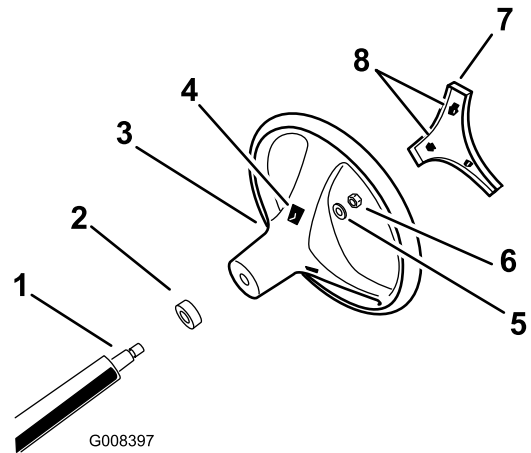

Figure 3
- Through the openings in the back of the steering wheel, release the lock tabs of the center cover and remove the cover from the wheel (Figure 3).
- Remove the locknut and washer from the steering shaft (Figure 3).
- Align the steering wheel onto the splines of the steering shaft (Figure 3).
- Assemble the washer and locknut threads of the steering shaft (Figure 3).
6. Align the lock tabs of the center cover to the openings in the steering wheel and press the cover into the wheel until the locks tabs snap into place (Figure 3).